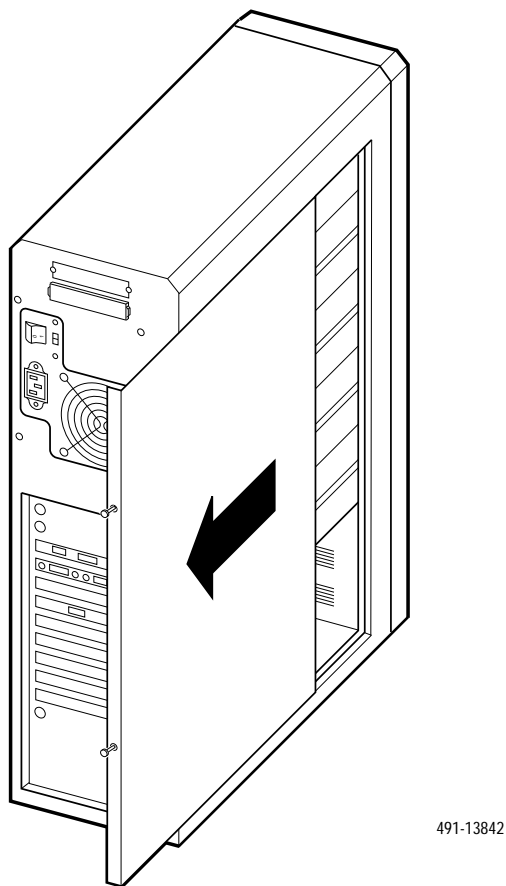

Figure 2-2. System 5000 — Disengaging Cover Locking Pins
2. Slide the cover towards the rear about one-half inch to disengage the locking pins, as shown in Figure 2-2.